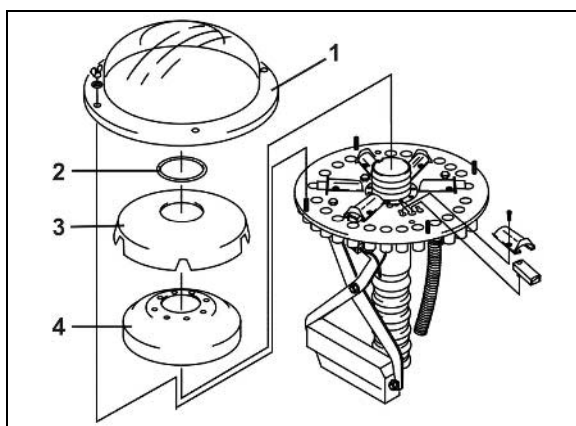

Fig. 142
- The seed tubes (Fig. 142/1) of the tramline coulters must be affixed to the distributor head openings which can be closed by the shutters (Fig. 142/2). If necessary exchange the seed tube among each other.
For creating two bouts, the following shutters in the distributor head (Fig. 142/2) are closed per bout
- Deactivation of shutters (Fig. 142/2) not in use